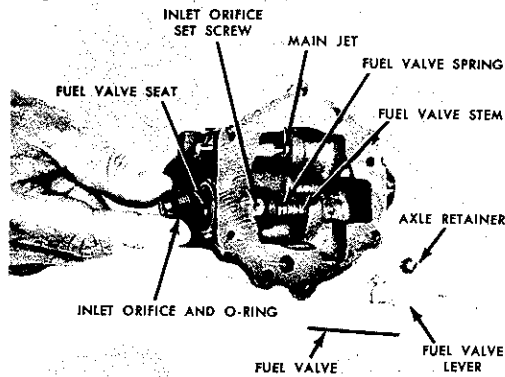

FIG. 7
11. Remove inlet orifice. Orifice is secured in position with 8-32 Allen Set Screw. Loosen this set screw before attempting to remove inlet orifice. Fig. 7.
12. Remove inlet valve stem and spring. Fig. 7.